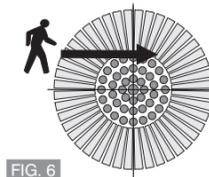
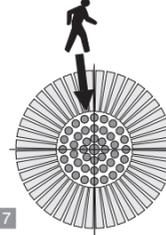

FIG. 6
FIG. 7
- Prior to mounting, keep in mind that the motion sensor is more sensitive to the motion, which is across the detection field (fig. 6) and less sensitive to the motion, which moves directly towards the detector (fig. 7).